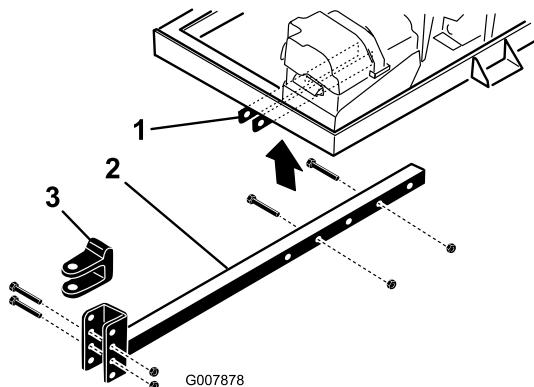

Figure 7
2. Insert the hitch tube into the frame brackets (Figure 7). Secure the tube to the frame with 2 bolts (3/8 x 3 inches) and flange nuts (3/8 inch).
- Remove the bolts and locknuts securing hitch clevis (Figure 7) to hitch tube.
- Remove the bolts and nuts securing the hitch tube to frame brackets (Figure 7).